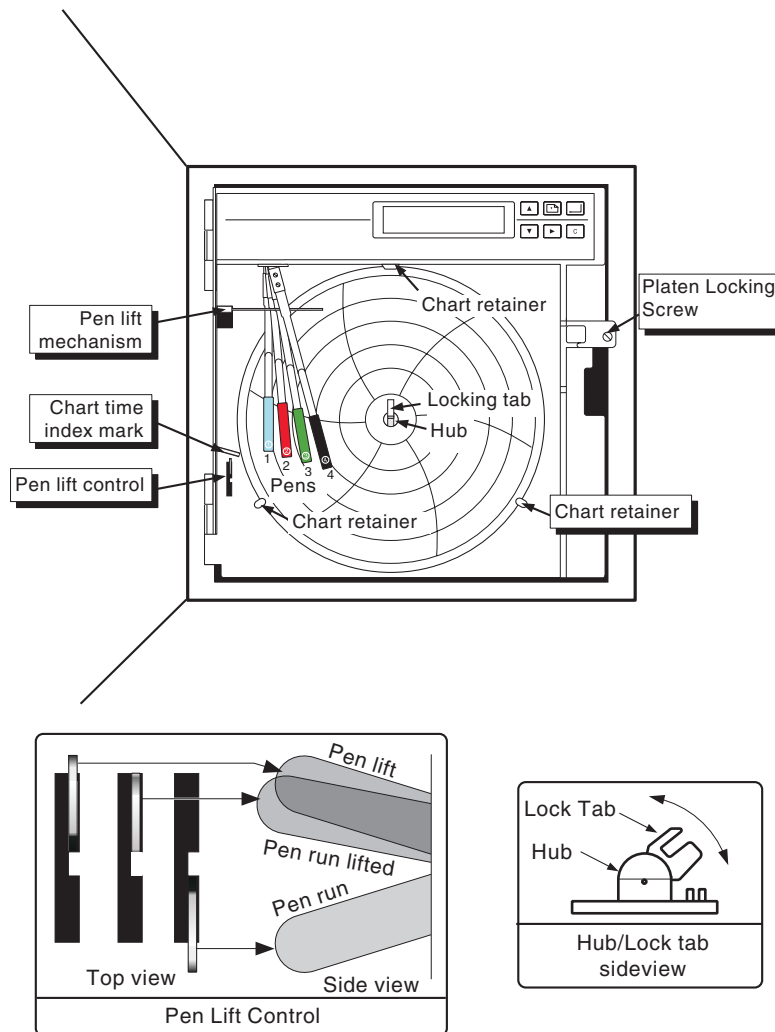

Figure 2.5 Pen/Chart replacement items
2. Move the pen lift lever as shown in figure 2.5, to the 'Lift' position. With recorder power on, and the recorder initialised, press the right arrow key. Press the Page key repeatedly until 'Pen Park' appears at the display. Use the up or down arrow to change 'Off' to 'On', then press the enter key. This causes recording to stop and the pens to fan for easy access.